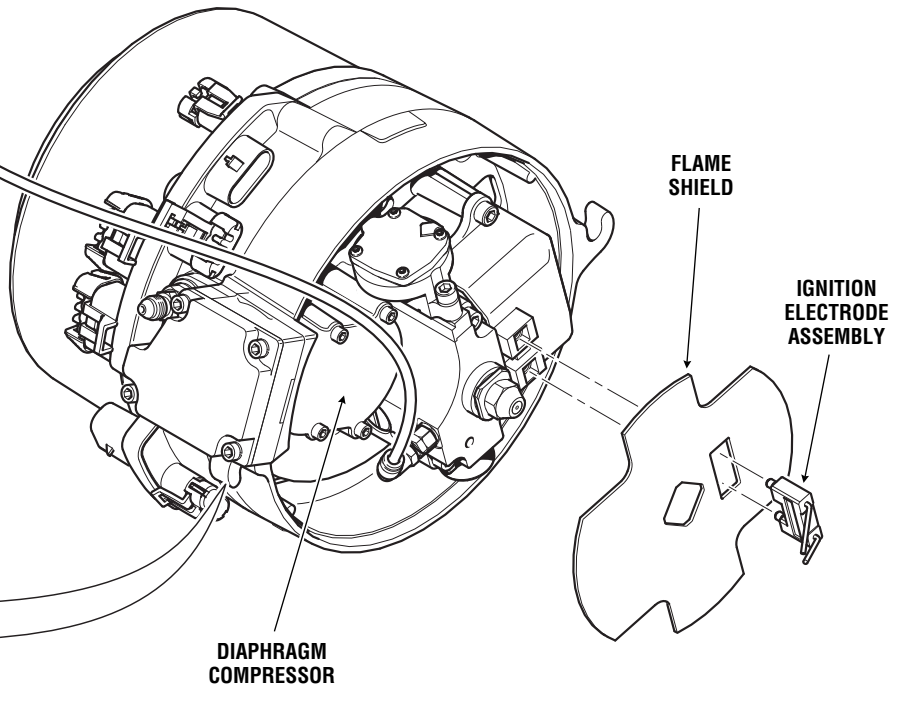

Figure 4-9: Air Pressure Test. Diaphragm Compressor Model.
- i) Thread in the Pressure Gauge and torque to 25 in-lbs \pm 3 in-lbs (2.8 Nm \pm 0.3 Nm) as shown in Figure 4-9.
- l) Adjust the air pressure if necessary by turning the screw as shown in Figure 4-9.